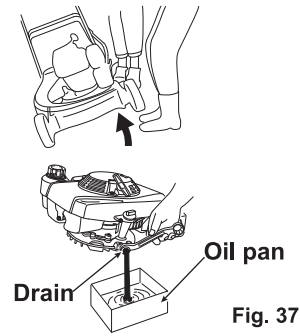

Fig. 37
- Remove the oil tank cap. (See Section 8.1.1) (See Fig. 37)